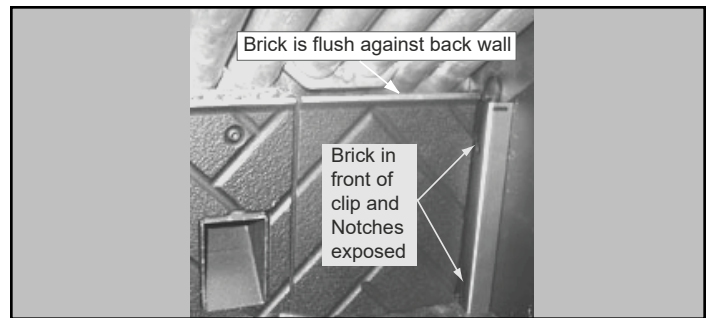
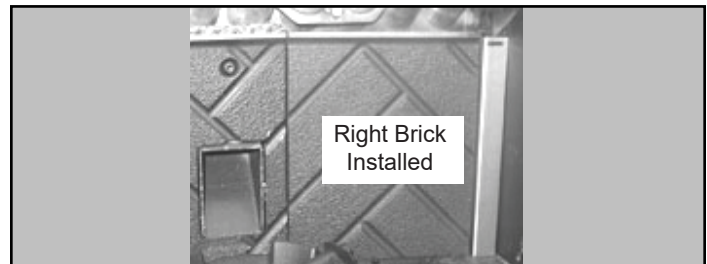

Figure 23.4
Figure 23.5
3. Reinstall bricks in reverse order ensuring that the bricks are flush against the back wall of the firebox (**Figure 23.4 and Figure 23.5**).